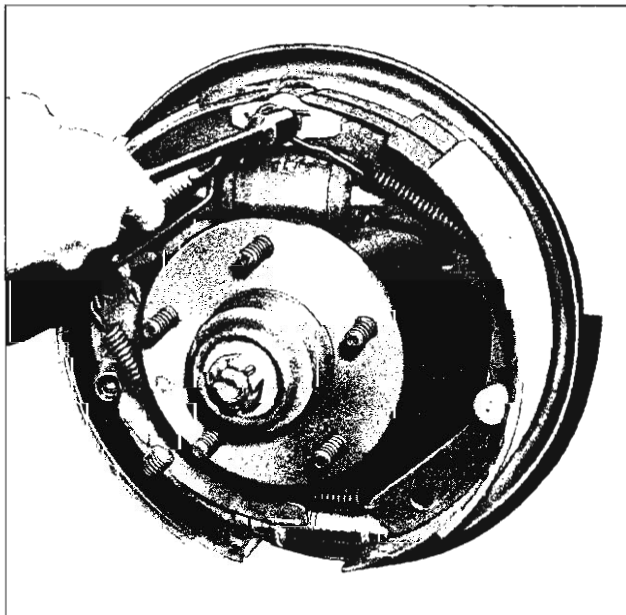

Fig. 5—Unhook Pull Back Spring
4. Unhook brake shoe pull back springs from anchor pin and link end, using Tool J-8049 (fig. 5).